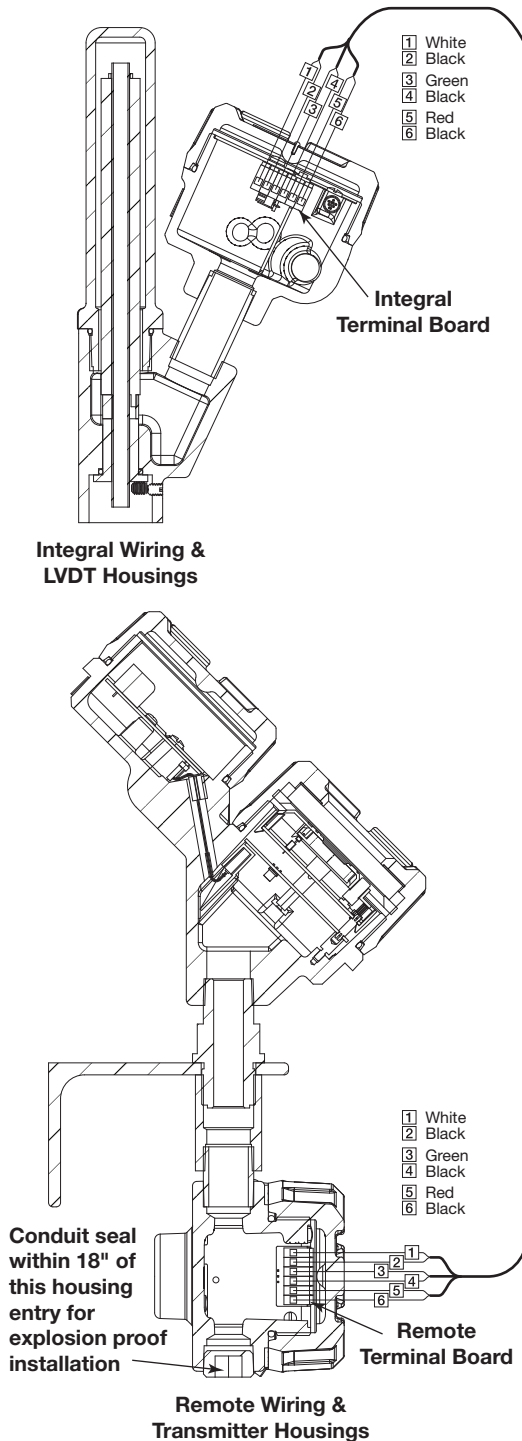

Figure 13
1. Install Explosion Proof conduit from the remote mounted E3 transmitter head to the integrally mounted terminal housing at the LVDT. An Explosion Proof conduit fitting (EY seal) is required within 18" of the remote mounted transmitter head wiring housing (see figure 13). Follow steps 2 through 7 of Remote Mount wiring procedure on page 15.